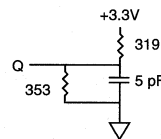

Fig. 2 OUTPUT LOAD EQUIVALENT
- ¹t_{HZCE}, ¹t_{HZOE}, ¹t_{HZBE} and ¹t_{HZWE} are specified with C_L = 5pF as in Fig. 2. Transition is measured ±200mV from steady state voltage.